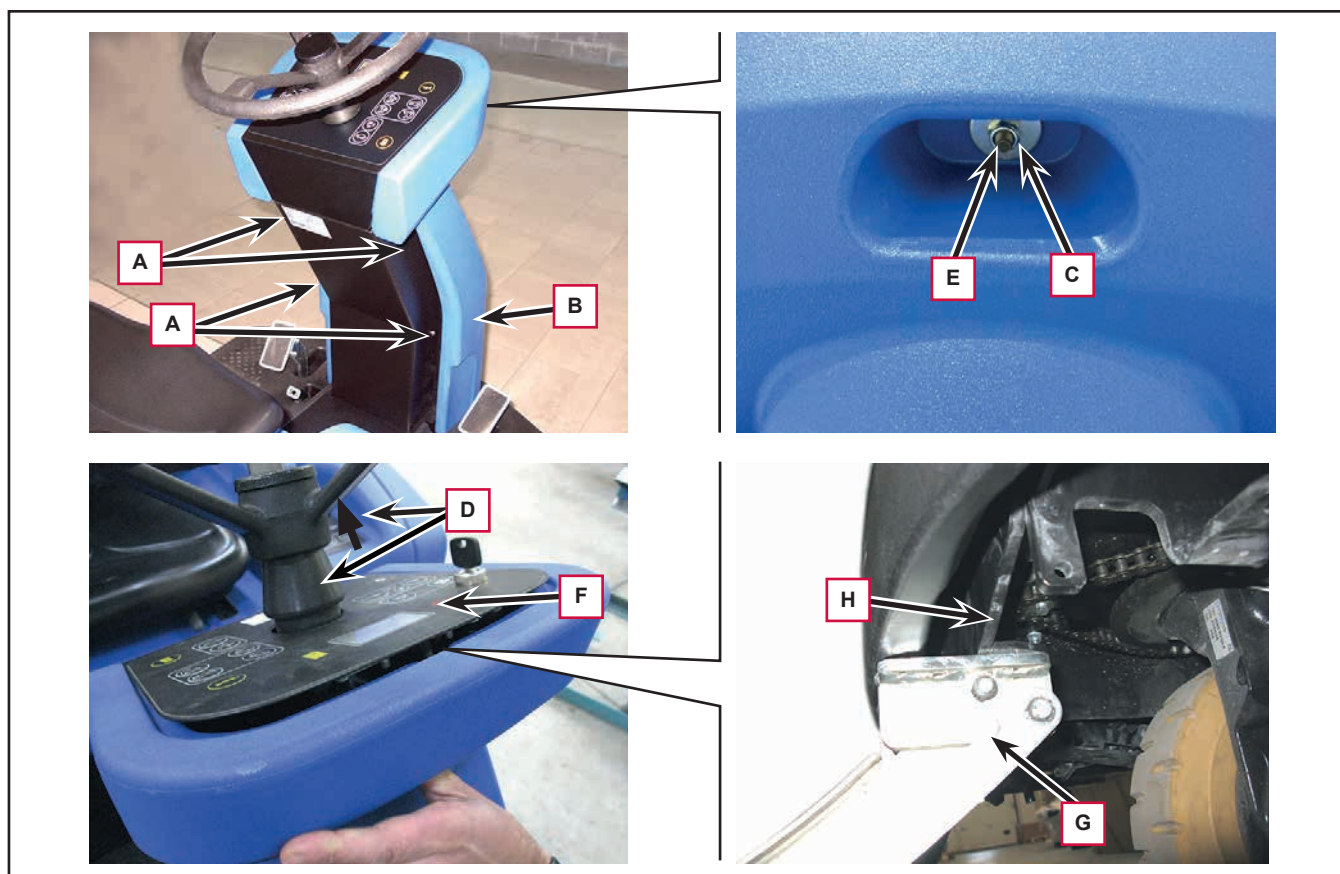

Figure 4
3. Unscrew the four screws (A, Figure 4) fastening the fairing (B).
4. Unscrew the nut (C) on the front.
5. Slide the sleeve (D) until it is flush on the steering wheel.
6. Press the stud (E), sliding it upwards (causing the Main Control Board (F) to lift slightly), then remove the fairing (B) by disengaging it from its seat and the stud (E).
7. Position a suitable lifting device (G) at the centre of the front section of the machine, on the chassis bracket (H), then raise the front of the machine by 3-4 centimeters until the front wheel can turn freely without touching the ground.